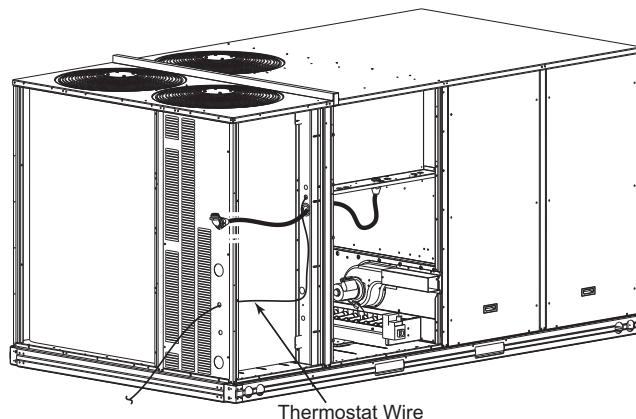

Fig. 47 — Thermostat Wire Routing
Pass the thermostat control wires through the bushing on the unit end panel. Route the wire through the snap-in wire tie and up to the web bushing near the control box. Route the wire through the bushing and into the bottom left side of the control box after removing one of the two knockouts in the corner of the box. Using a connector at the control box to protect the wire as it passes into the control box. Pull the wires over to the terminal strip at the upper left corner of the Central Terminal Board (CTB). Use the connector at the control box and the wire tie to take up any slack in the thermostat wire to ensure that it will not be damaged by contact with the condenser coil. See Fig. 47.
1. Route the humidistat 2-conductor cable (field-supplied) through the bushing in the unit's louvered end panel (see Fig. 47).
4. Use the connector and the wire tie to reduce any slack in the humidistat cable to ensure that it will not be damaged by contact with the condenser coil (see Fig. 47).
1. Route the Thermidistat multi-conductor thermostat cable (field-supplied) through the bushing in the unit's louvered end panel (see Fig. 47).
4. Use the connector and the wire tie to reduce any slack in the thermostat cable to ensure that it will not be damaged by contact with the condenser coil (see Fig. 47).